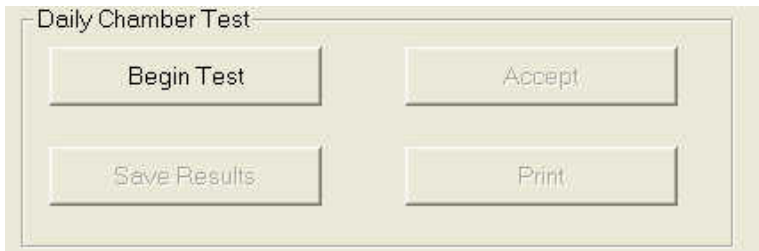

Figure 15 Daily Chamber Test Frame
- After the Chamber is selected, the **Begin Test** button will be enabled as shown in Figure 15 Daily Chamber Test Frame.